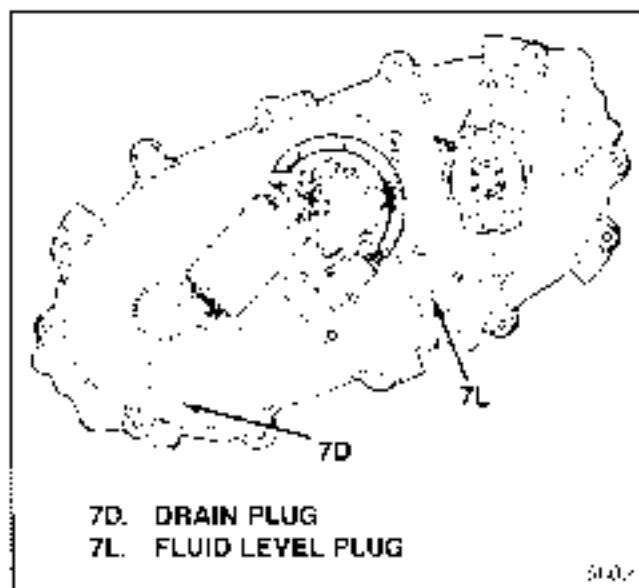

Figure 2-1. Drain and Fluid Level Plugs
- a. Wipe fluid level plug (see figure 2-1) and surrounding area clean.
- a. Wipe fluid level and drain plugs (see figure 2-1) and surrounding areas clean.
- e. Place drain pan under transfer case and remove transfer case drain (7D) and fluid level (7L) plugs (see figure 2-1). Drain all fluid from transfer case and re-install plugs.
- g. On mechanical shift units, disconnect shift linkage from transfer case shift lever (77).